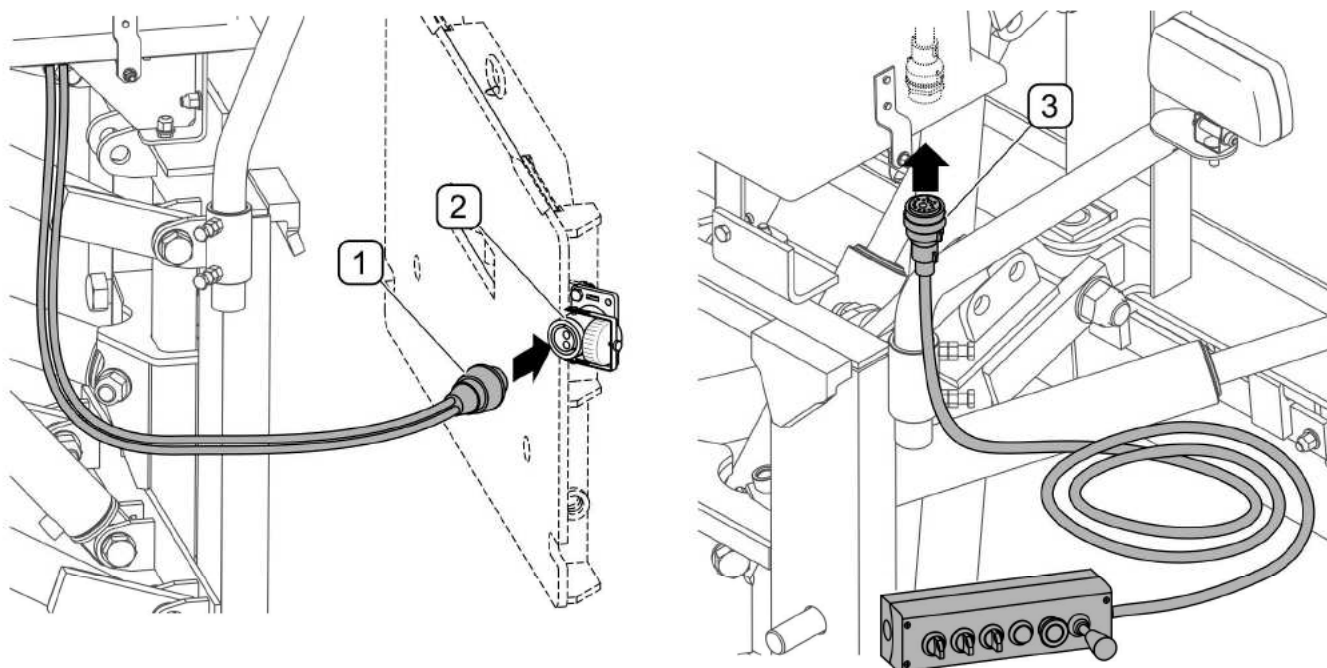

FIG. 4.2 Connecting the control panel and electrical system power supply
- 1) Drive the carrying vehicle to the plough linkage system to a distance of about 30 cm from the linkage and immobilise the vehicle with parking brake. Connect the plough supply conduit plug (1) to socket (2) installed on the front of the carrying vehicle (FIG. 4.2). Connect the control panel plug (3) to the electro-hydraulic power supply box.